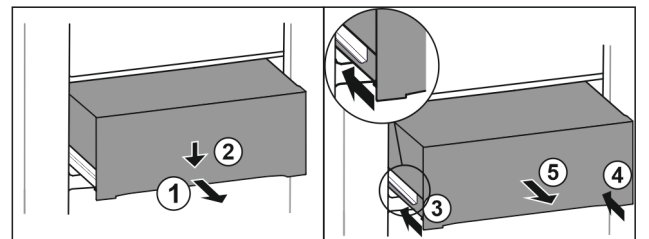

Fig. 193
- ▶ Pull out drawer half-way. Fig. 193 (1)
- ▶ Push the drawer down at the front. Fig. 193 (2)
- ▶ Push the left rail in by about 2 cm. Fig. 193 (3)
- ▶ Push the right rail in by about 2 cm. Fig. 193 (4)
- ▶ Remove drawer to the front. Fig. 193 (5)